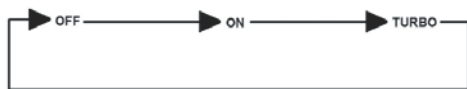

Figure 3
- b) The group status can be set to 'TURBO' active when the group is specified as a turbo group (refer to 5.3) and the grey turbo indicator will turn blue to indicate the TURBO function is active. Figure 3 shows the group status sequence alternated by touching the group button.